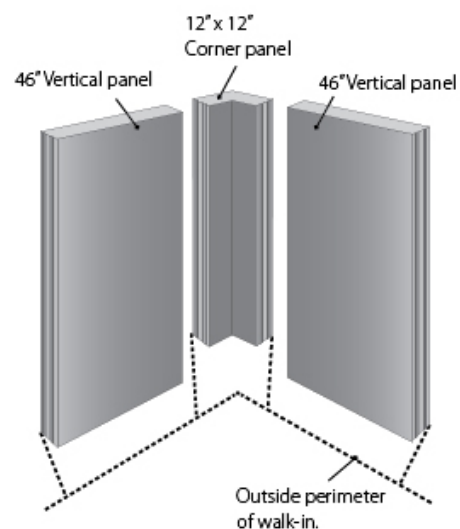

Figure 8
- F. When all walls and ceiling panels are in place, lock all vertical panels to floor panels. Door sections are held down through the threshold plate. Drill through thresholds' pre-drilled holes into floor. Secure to floor with screws provided. See Figure 8.